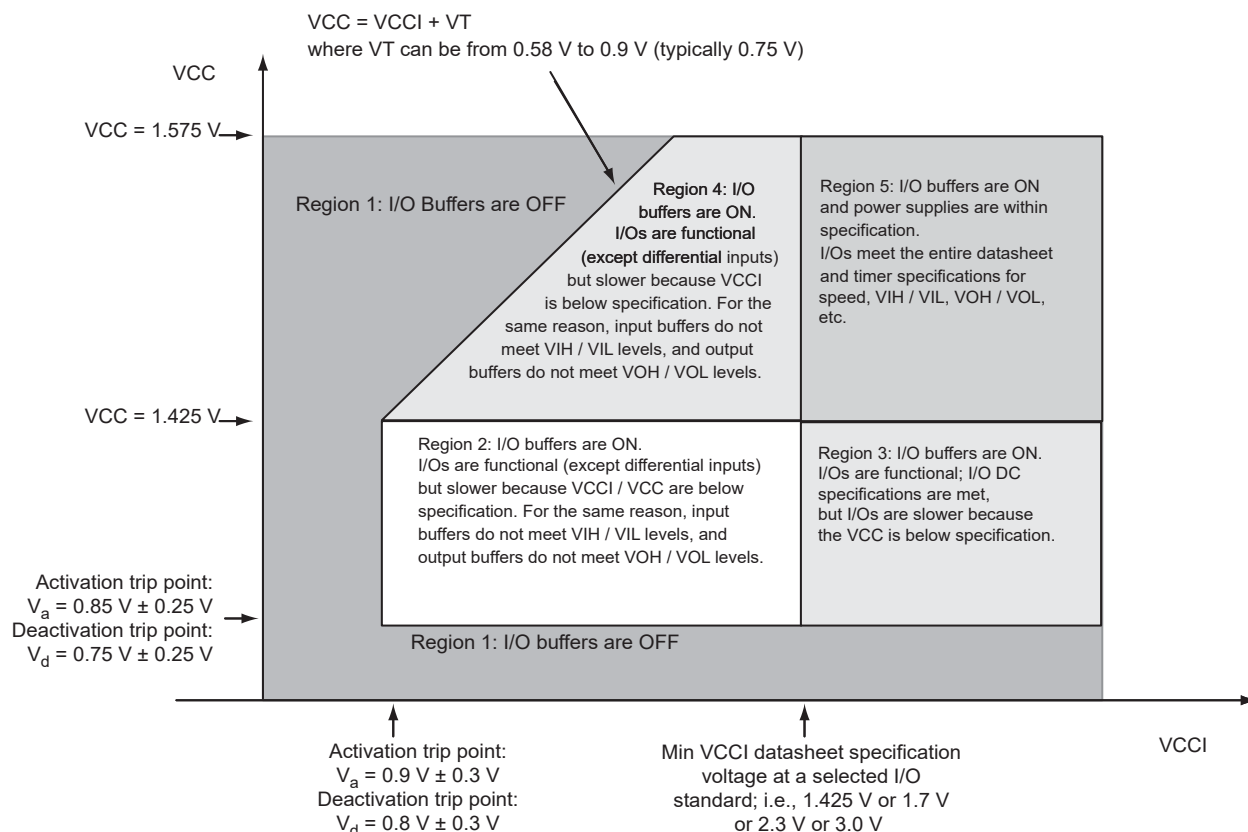
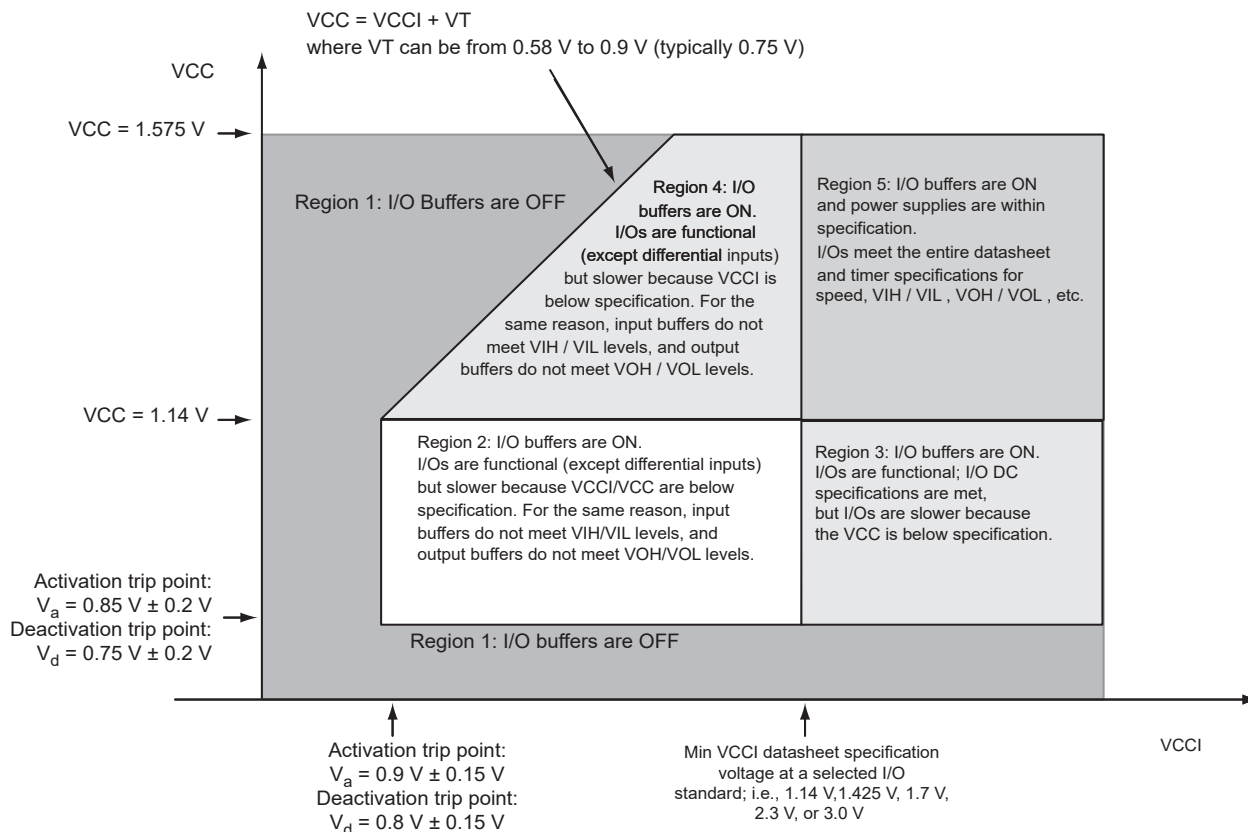

Figure 2-1 • V5 – I/O State as a Function of VCCI and VCC Voltage Levels
Figure 2-2 • V2 Devices – I/O State as a Function of VCCI and VCC Voltage Levels
Sophisticated power-up management circuitry is designed into every IGLOOe device. These circuits ensure easy transition from the powered-off state to the powered-up state of the device. The many different supplies can power up in any sequence with minimized current spikes or surges. In addition, the I/O will be in a known state through the power-up sequence. The basic principle is shown in Figure 2-1 on page 2-4 and Figure 2-2 on page 2-5.
1. VCC and VCCI are above the minimum specified trip points (Figure 2-1 on page 2-4 and Figure 2-2 on page 2-5).
Microsemi recommends using monotonic power supplies or voltage regulators to ensure proper powerup behavior. Power ramp-up should be monotonic at least until VCC and VCCPLX exceed brownout activation levels. The VCC activation level is specified as 1.1 V worst-case (see Figure 2-1 and Figure 2-2 on page 2-5 for more details).